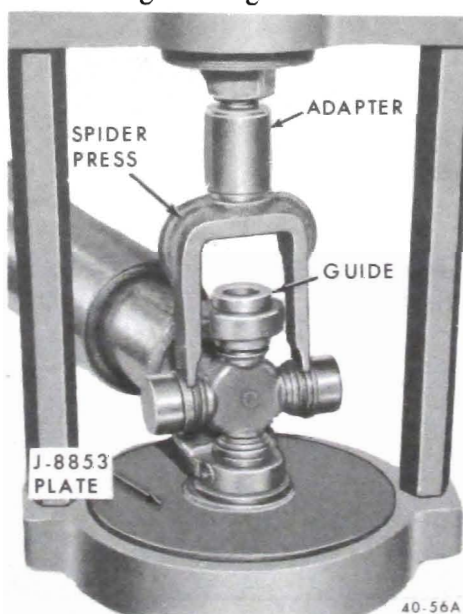

Figure 40-48 - Pressing Out U-Joint Bearing
1. Position propeller shaft and spider press J-9522-3 in power ram equipped with base plate J-8853 and ram screw adapter J-9522-2. See Figure 40-48.